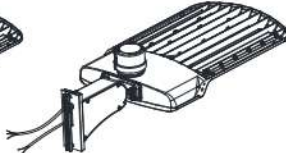

Figure 6
Step 2: Install the bracket on the fixture, then cover it and tighten it. (Figure 6)